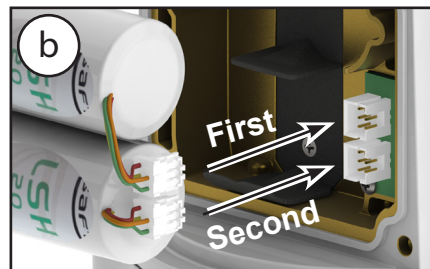

Figure 8. Non-rechargeable batteries
- Ensure the batteries are in place and plug the leads into the connectors in the order shown in Figure 8 and Figure 9.